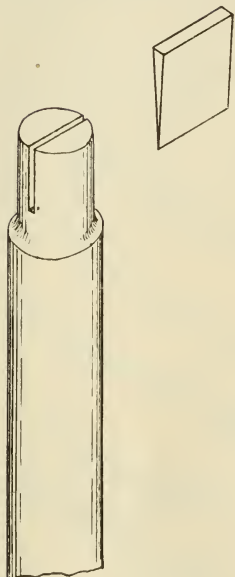

FIG. 32.—WEDGING ENDS OF CROSSBAR.
15. **Trimming the ends of the crossbar.** — The ends of the hickory crossbar should be rounded off for a distance of about 3" from each end. (Fig. 32.) If the bar is considerably too large, it will
16. **Wedging the ends of the crossbar.** — Saw slits in the end of the crossbar to a depth of about $2\frac{1}{2}$ "', as in Fig. 32, and make two wedges also of hickory similar to that shown in Fig. 32. Drive the crossbar into the hole and wedge. Repeat for the other end and saw off the projections flush with the surface of the legs.